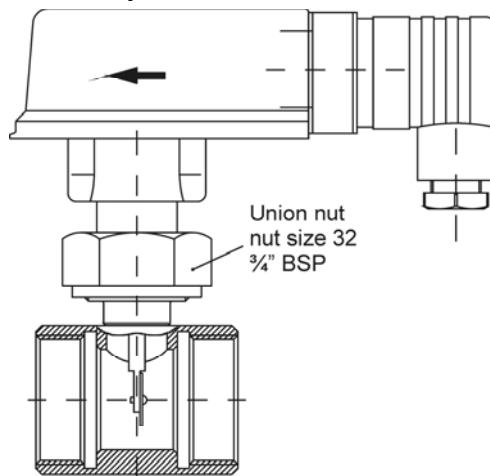

Fig. 5
- ↳ Flow switches optionally equipped with a copper tube section (→ Fig. 5) have to be soldered to the pipe. The flow switch (body with paddle system) and the o-ring have to be disassembled from the tube section.